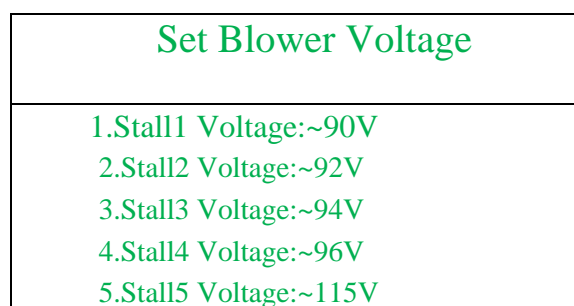

Figure 26
2. Using the SCROLL DOWN key, move down to option 4: "Set Blower Voltage". Press ENTER again to move into the "Set Blower Voltage" screen. **SEE FIGURE 26.**
4. Using the SCROLL UP or SCROLL DOWN keys, select the appropriate voltage. **NOTE:** *Voltage can be decreased or increased only in increments of five (5).*